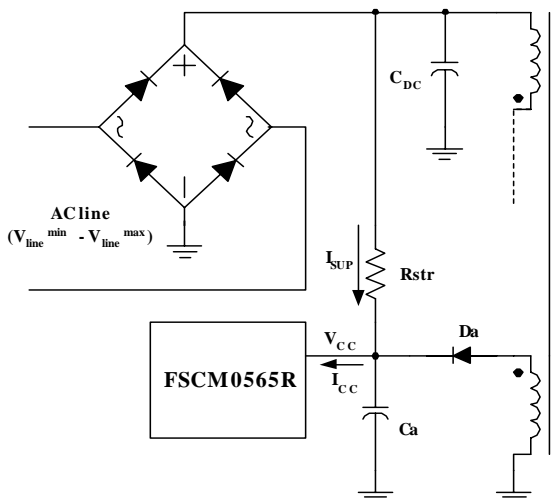
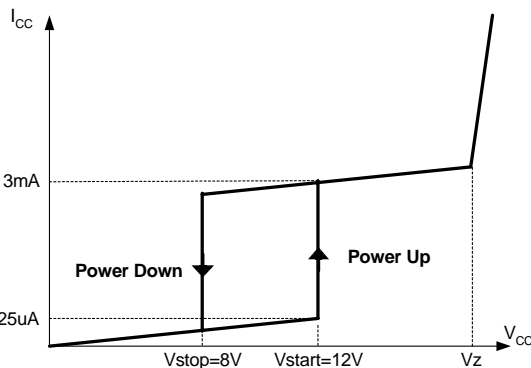

Figure 16. Startup Circuit
Figure 17. Relation Between Operating Supply Current and Vcc Voltage
1. Startup: Figure 16 shows the typical startup circuit and transformer auxiliary winding for the FSCM0565R application. Before the FSCM0565R begins switching, it consumes only startup current (typically 25uA) and the current supplied from the DC link supply current consumed by the FPS (I_{cc}), and charges the external capacitor (C_a) that is connected to the Vcc pin. When Vcc reaches start voltage of 12V (V_{START}), the FSCM0565R begins switching, and the current consumed by the FSCM0565R increases to 3mA. Then, the FSCM0565R continues its normal switching operation and the power required for this device is supplied from the transformer auxiliary winding, unless Vcc drops below the stop voltage of 8V (V_{STOP}). To guarantee the stable operation of the control IC, Vcc has under voltage lockout (UVLO) with 4V hysteresis. Figure 17 shows the relation between the current consumed by the FPS (I_{CC}) and the supply voltage (VCC)